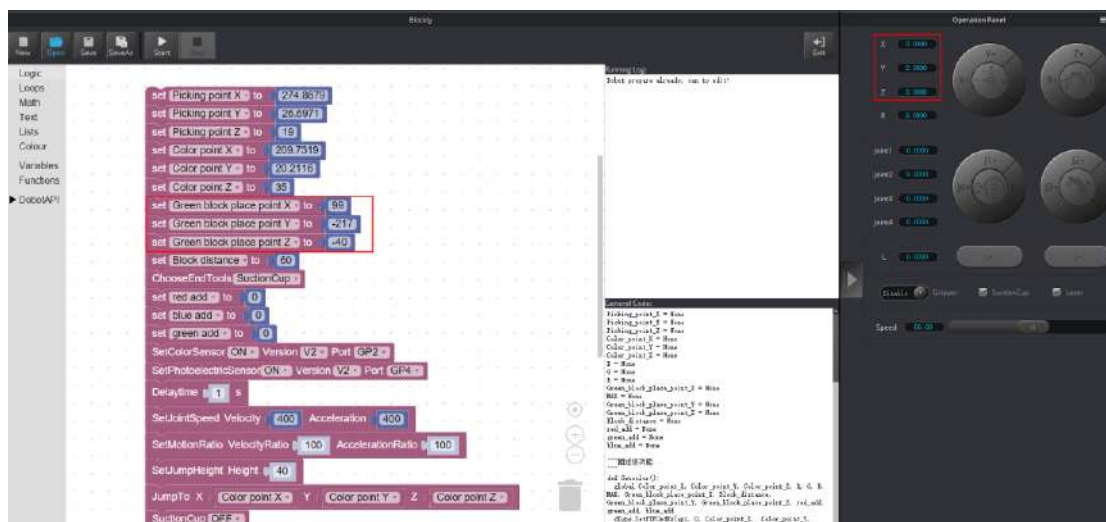

Figure 4.11 Modify placing position
2. The operation panel on the DobotStudio will record the values of X, Y, Z axes automatically, and write the values of the X, Y, Z axes in the sorting demo as shown in Figure 4.11.